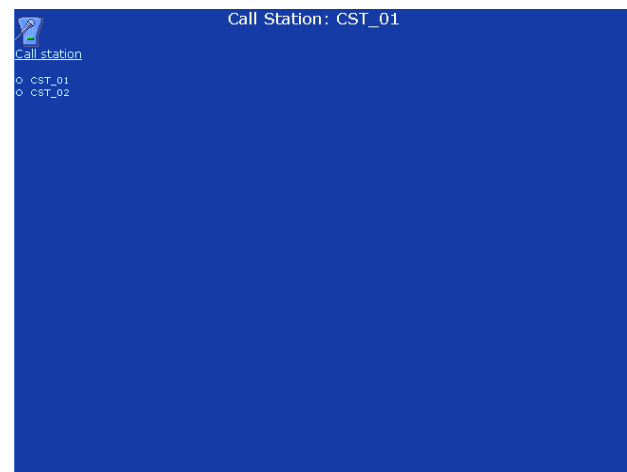

figure 38.14: Call activation key, step 1
- 1 Go to *Configure > Action programming > Call station*. A screen similar to the one in figure 38.14 appears in the main frame of the web interface.